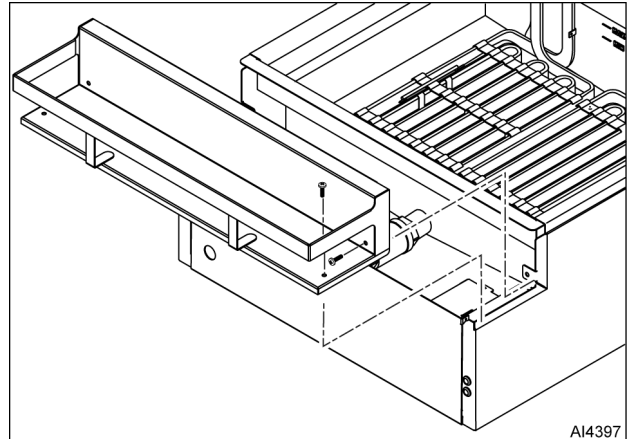

Fig. 2
1. Remove fasteners and bullnose (Fig. 2).